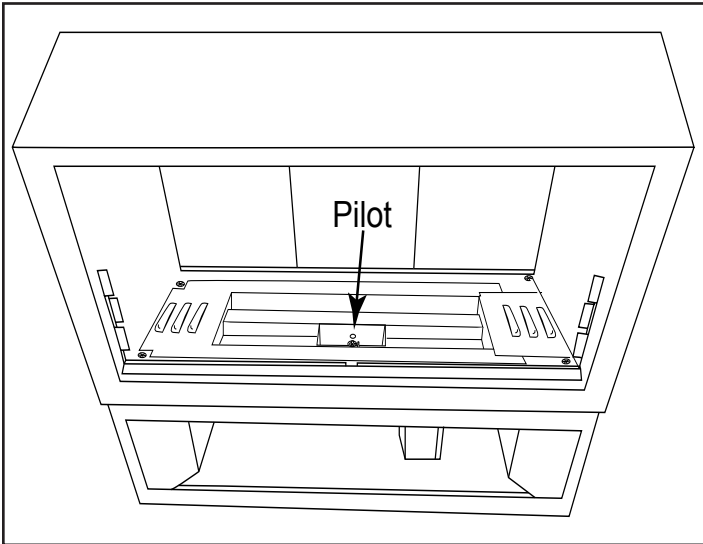

Figure 30 Shows burner pan installed into fireplace.
Step 20: Install the burner pan back into the fireplace. See *Figure 30*.